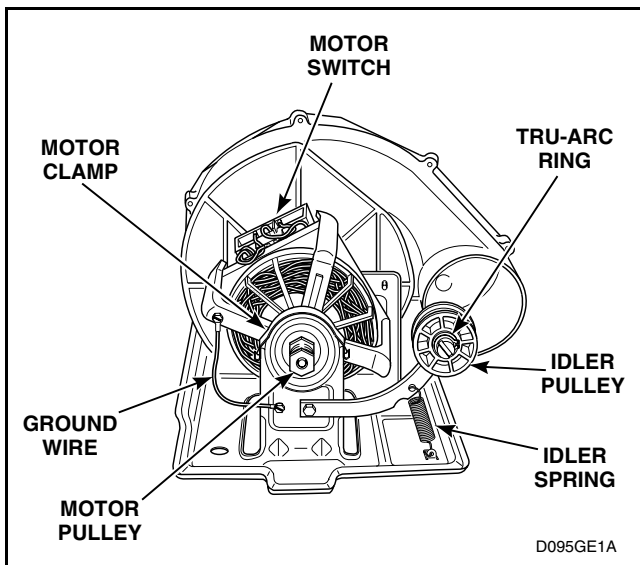

Figure 40
Refer to *Figure 40* for motor and idler pulley removal.
- (2) Disconnect ground wire from motor. Refer to *Figure 40*.
- (3) Use a screwdriver and pry two motor clamps off motor mounting bracket. Refer to *Figure 40*. Then lift motor out of mounting bracket.
**NOTE:** When replacing motor, motor switch location should be at 10 o'clock position (viewed from pulley end) with the anti-rotating notch (located on the front and rear cradles) on the motor mounting bracket. Refer to *Figure 40*.